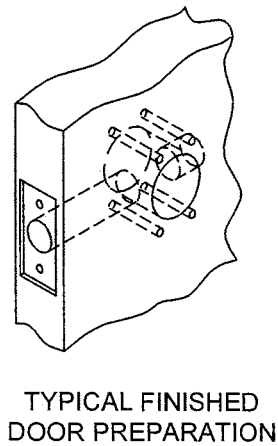

FIGURE 2
- A. DRILL HOLES AS DIRECTED ON INSTALLATION TEMPLATE MAKING CERTAIN DRILL IS PERPENDICULAR TO THE DOOR AT ALL TIMES WHILE DRILLING. DRILL 2-1/8" DIA. CROSS BORE FIRST. NEXT, DRILL FOUR (4) 5/16" DIA. MOUNTING HOLES THRU. THEN DRILL 1" DIA. EDGE HOLE.
- B. INSERT LATCH BOLT UNIT INTO HOLE IN EDGE OF DOOR. USING FACE PLATE AS A TEMPLATE, MARK OUTLINE. ALSO MARK LOCATION OF TWO (2) ATTACHING SCREWS. REMOVE LATCH BOLT UNIT.
- C. DRILL PILOT HOLES FOR TWO (2) ATTACHING SCREWS. NEXT, MORTISE DOOR EDGE 5/32" DEEP FOR FACE PLATE (SEE FIGURE 2).